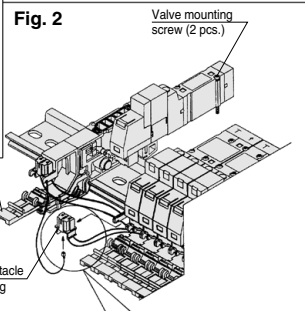

Fig. 2
- 4** Loosen the valve mounting screw on the U side, remove the valve, and take out the receptacle housing. (Refer to Fig. 2.)